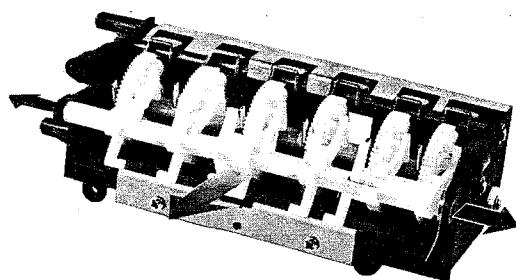

Fig. 14
4) After gear replacement, return each gear to its proper position. (See figure 14)